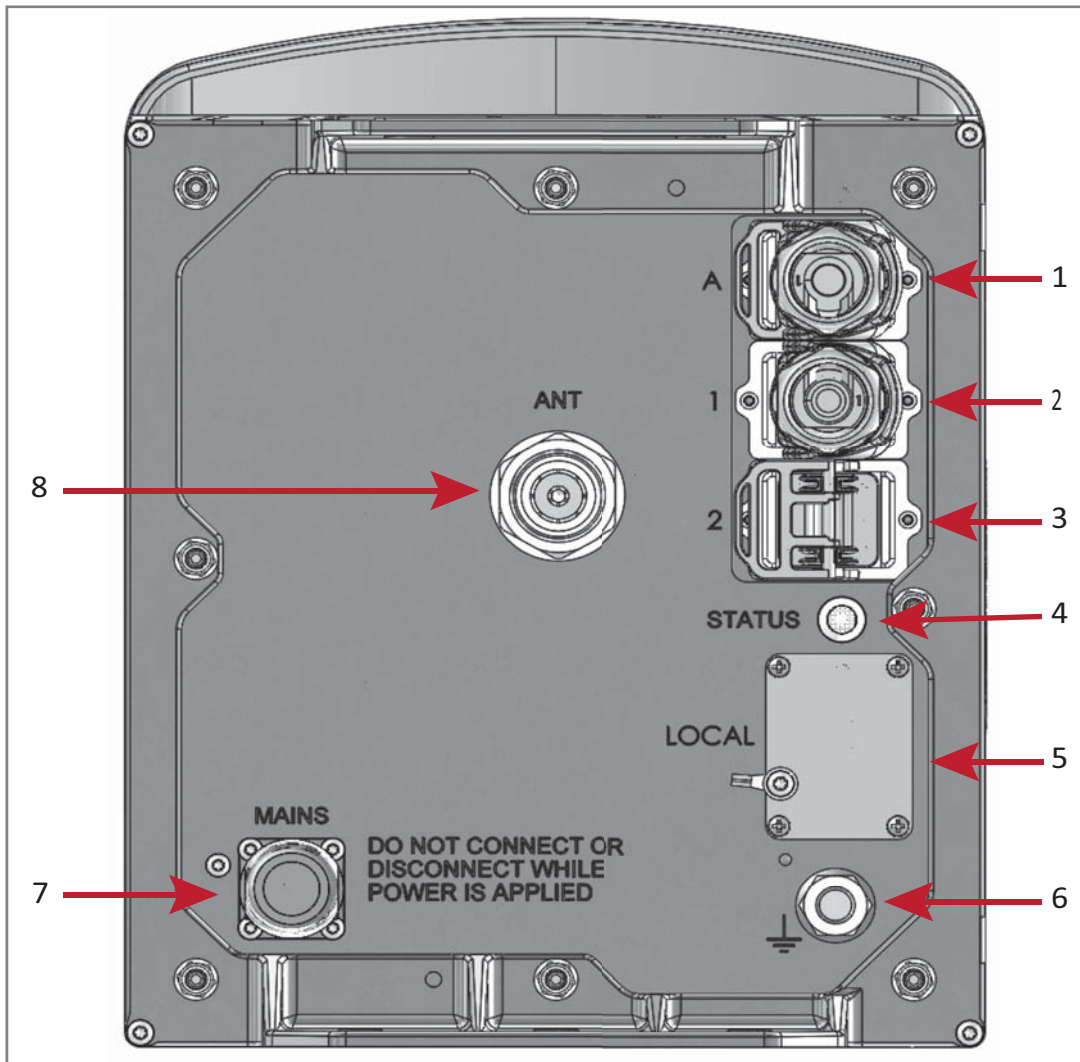
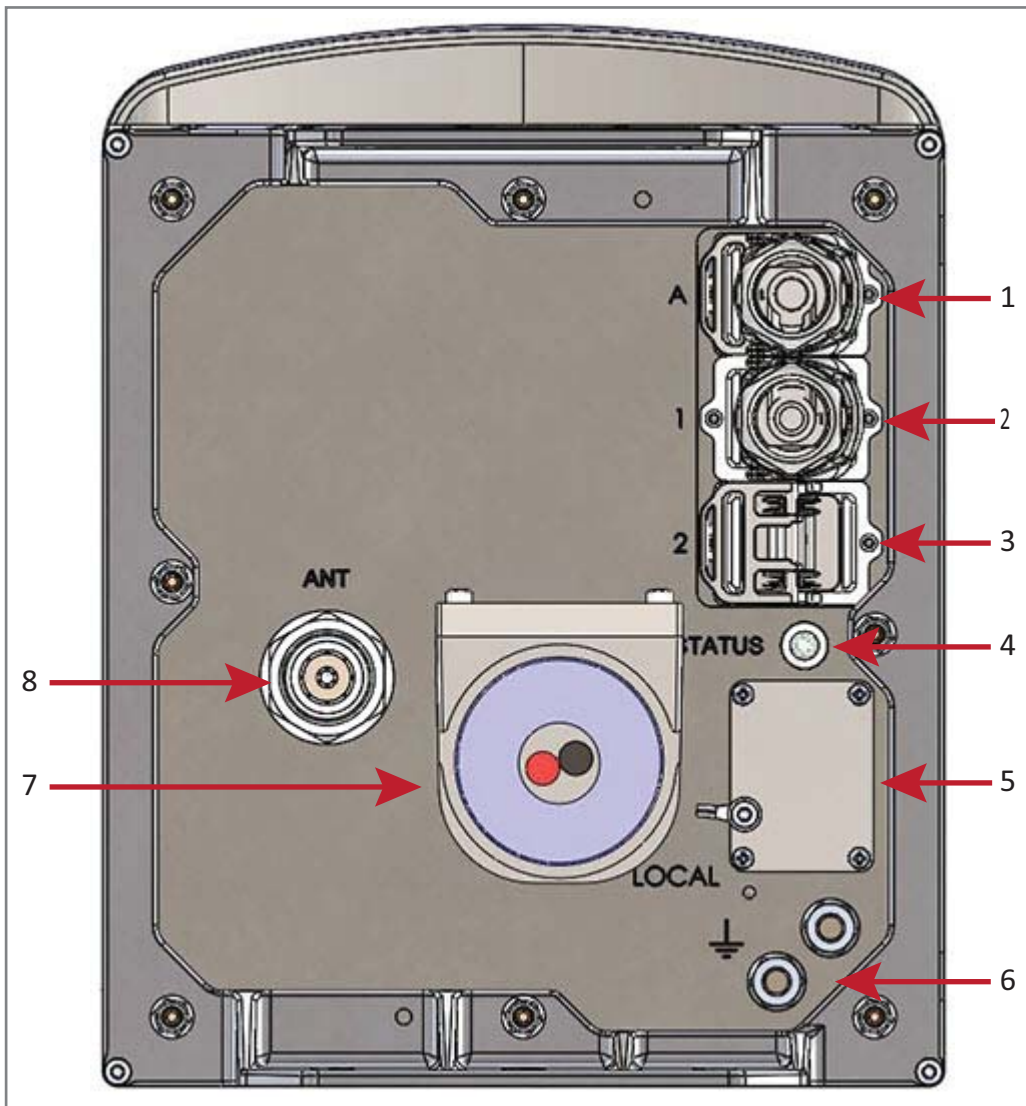
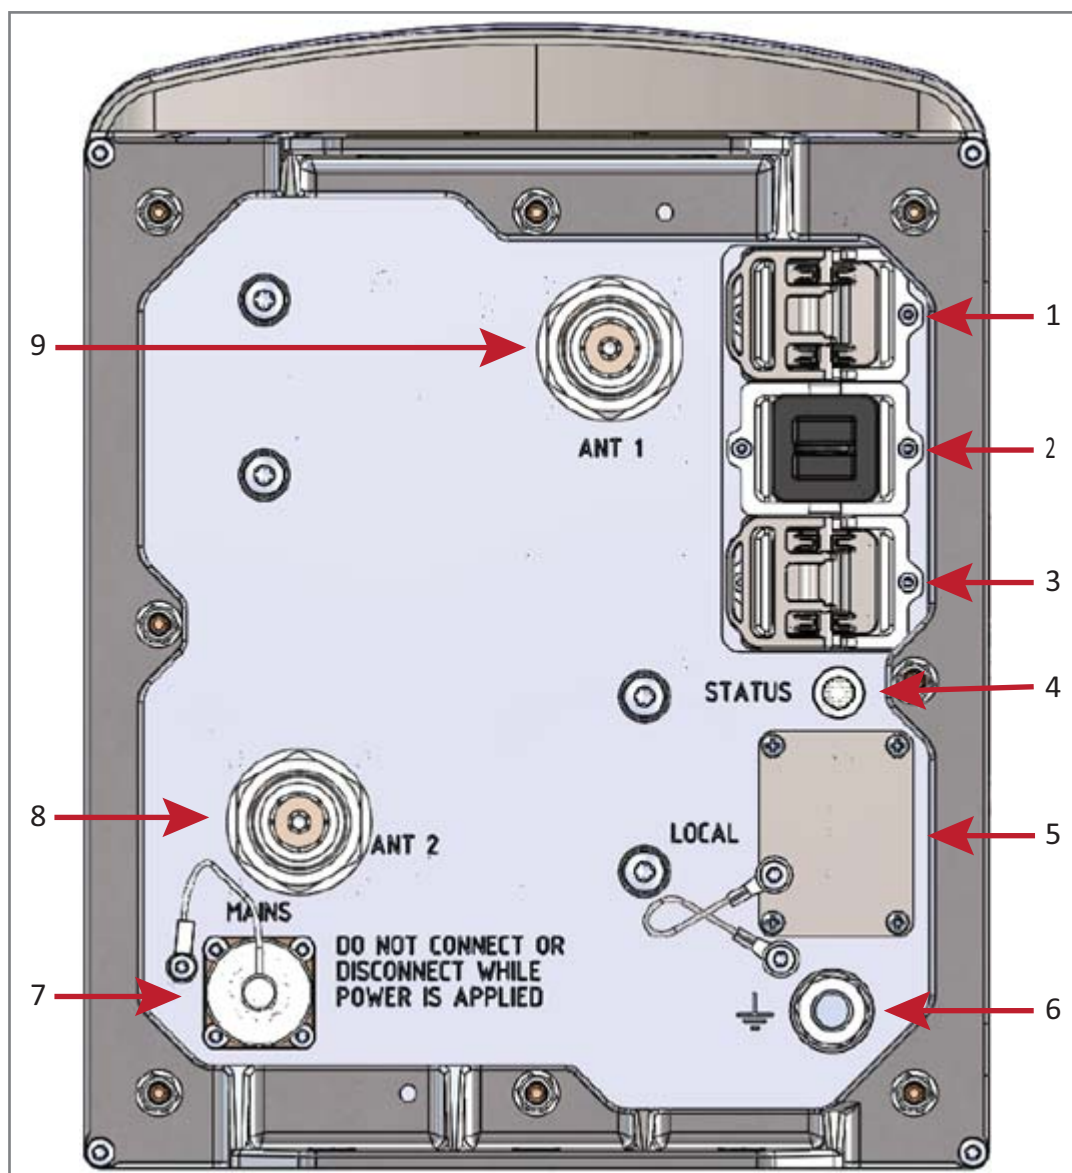
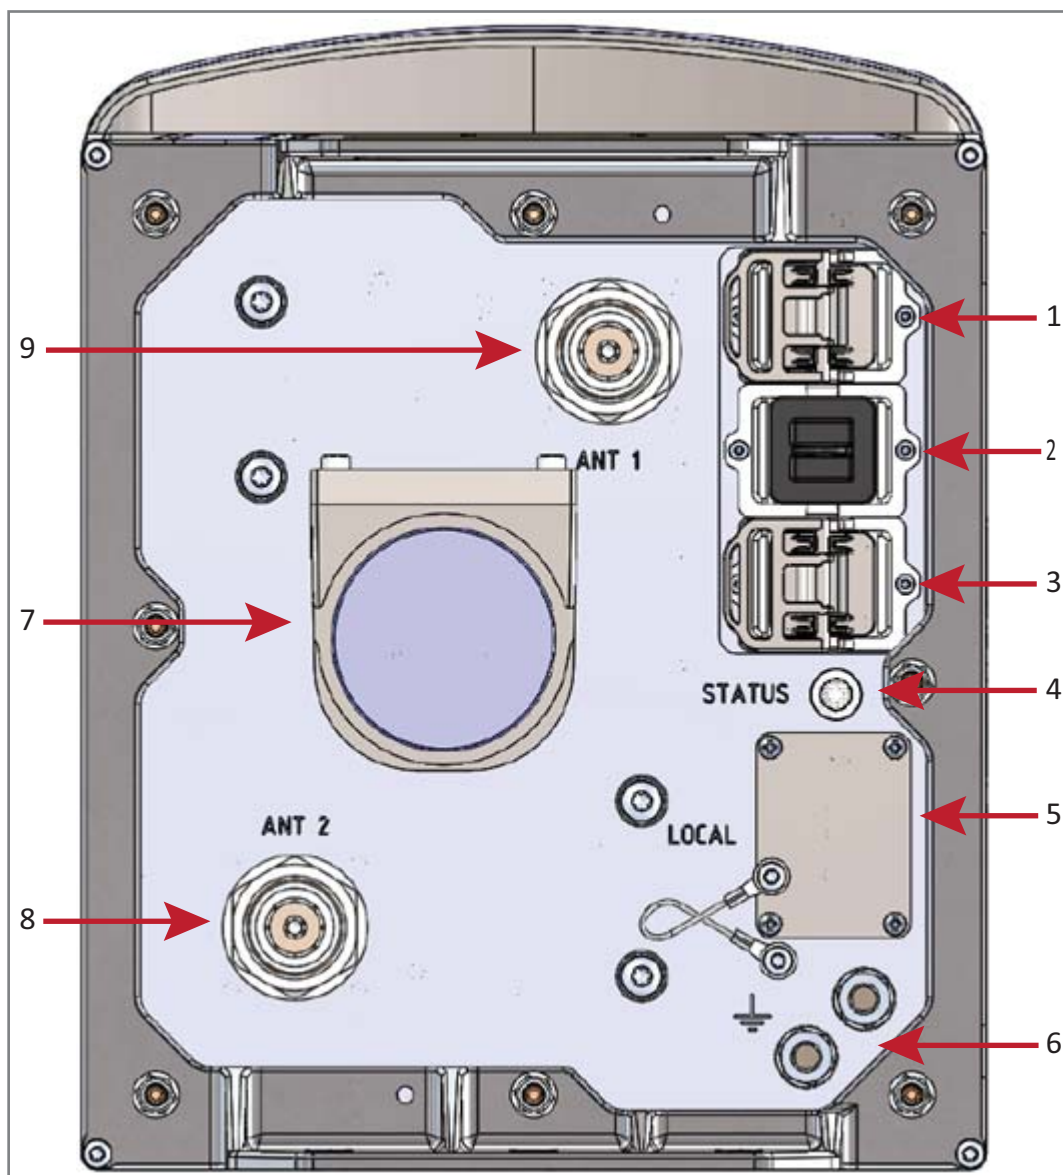

Figure 2. Location of Connectors and LED on AC Version with One Antenna Connector
Figure 3. Location of Connectors and Status LED on DC Version with One Antenna Connector
Figure 4. Location of Connectors and Status LED on AC Version with Two Antenna Connectors
Figure 5. Location of Connectors and Status LED on DC Version with Two Antenna Connectors
- Figure 2 shows the connectors on an AC version of the CAP H that has one antenna connector.
- Table 2 on page 7 maps the callouts in Figure 2 and Figure 3 on page 8 and describes the connectors and STATUS LED.
- Figure 3 on page 8 shows the connectors on a DC version of the CAP H that has one antenna connector.
The "REF #" column in Table 2 refers to the callouts in Figure 2 on page 6 and Figure 3 on page 8.
- Figure 4 shows the connectors on an AC version with two antenna connectors.
- Table 3 on page 10 maps the callouts in Figure 4 and Figure 5 on page 11 and describes the connectors and STATUS LED.
- Figure 5 on page 11 shows the connectors on a DC version with two antenna connectors.
The “REF #” column in Table 2 refers to the callouts in Figure 2 on page 6 and Figure 5 on page 11.